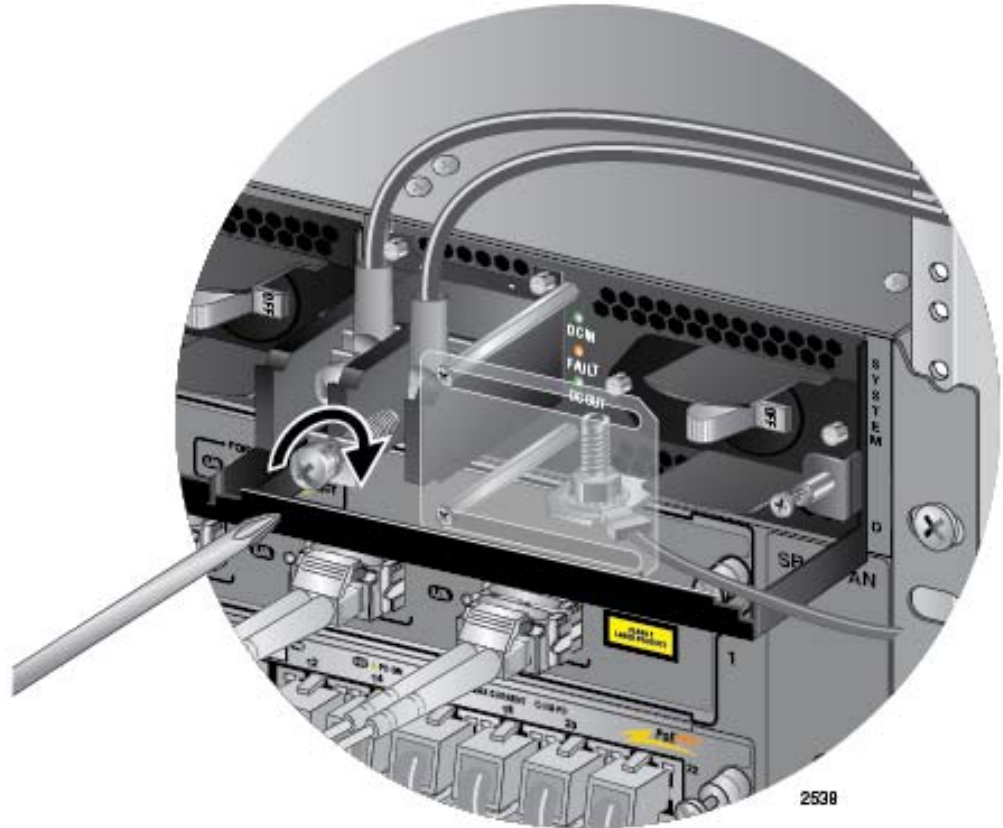

Figure 139. Connecting the Negative (-) Power Wire with a Straight Terminal
7. With a #3 Phillips-head screwdriver, connect the negative (-) power lead wire to the negative terminal on the power supply, with the remaining terminal screw removed in the previous step 5. The negative terminal is on the right. You may attach the terminals with the wires either above or below the terminal block. Refer to Figure 139 on page 205.